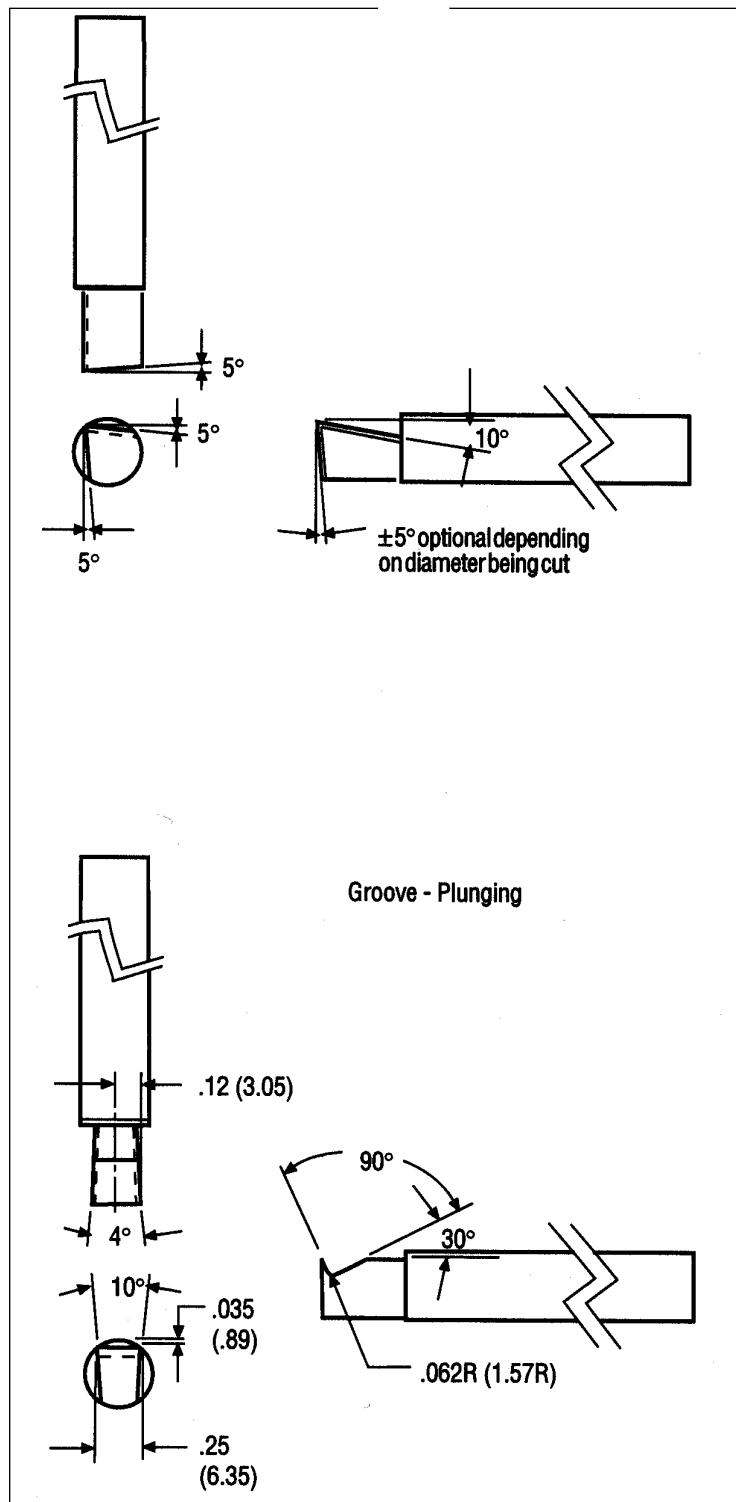

FIGURE 8 – TOOL BIT GEOMETRY - INCH (MM)
1. Grind a 1/2"(13 mm) round tool bit. See Figure 8 on page 20 for grinding information.